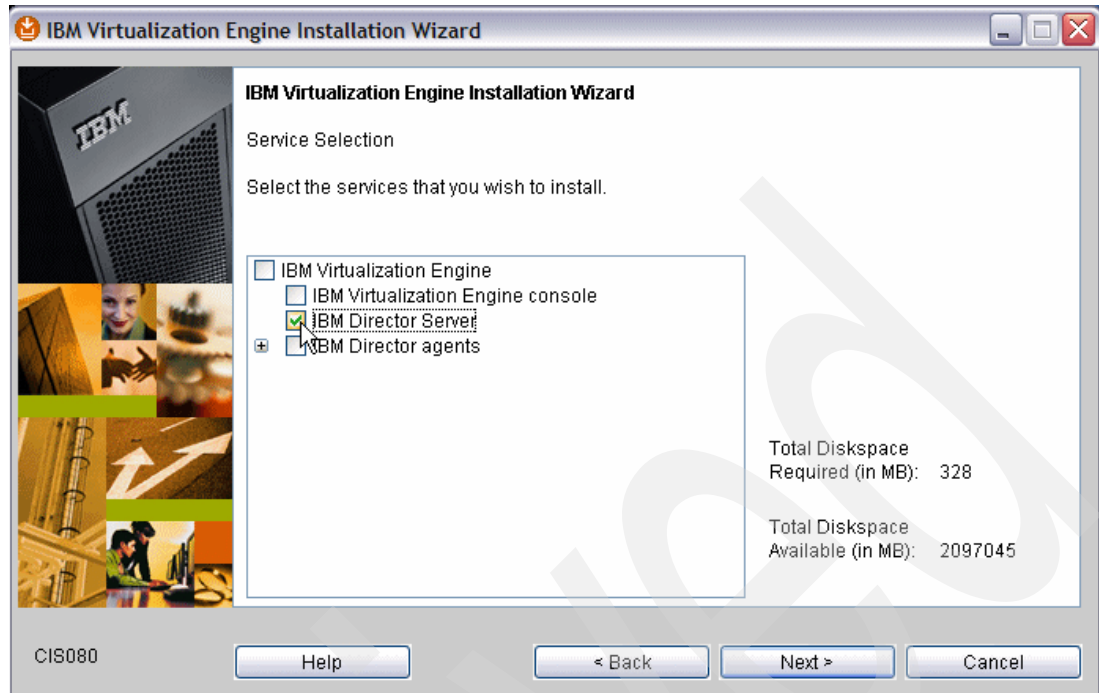

Figure 5-11 Service Selection window, select IBM Director Server
7. On the Service Selection window (Figure 5-11 on page 119), select **IBM Director Server** and click **Next**.